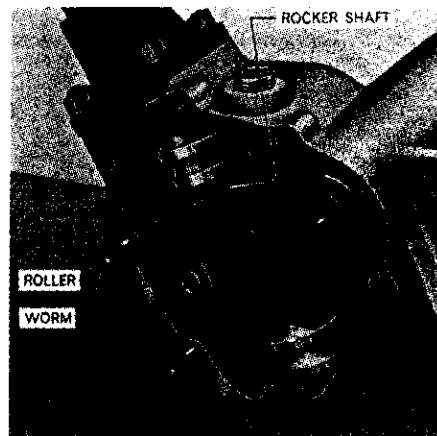
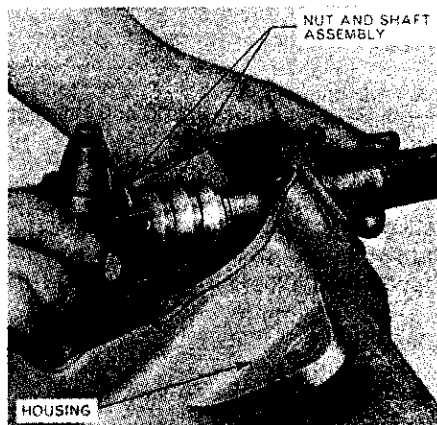
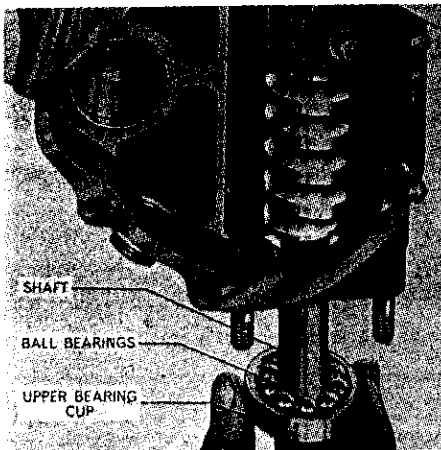

Fig. 22—View of steering gear assembly with side cover removed. Roller moves in slot in side cover.
Fig. 23—Removing the ball nut and steering shaft assembly from gear housing.
Fig. 24—Installing upper bearing race and ball bearings.
Be sure rocker shaft and ball nut are in mid position and roller is in place as shown in Fig. 22, then install side cover (25—Fig. 21) without shims (23) or gaskets (24). Tighten the retaining nuts and cap screws equally finger tight, then measure gap between side cover and steering housing at several points with feeler gage. Average gap measurement is approximate thickness of shims and gaskets required. Shims are 0.005 thick. Use one gasket on each side of shim pack and, on final assembly, apply a light coat of sealer to gaskets.
Remove nut retaining steering arm (16) to rocker shaft (22) and, using suitable pullers, remove arm from shaft. Unbolt and remove the side cover (25), shims (23) and gaskets (24). Remove roller (7) from ball nut (8) and slide the rocker shaft from housing. Unbolt and remove steering column (4), shims (14) and gaskets (15) from gear housing (26). Remove bushing (3) from upper end of steering column. Pull wormshaft (6) upward, then remove upper bearing race (5) and the 10 loose bearing balls (9). Remove the wormshaft and ball nut assembly from gear housing as shown in Fig. 23, then remove the 10 loose bearing balls from gear housing. Unscrew the ball nut assembly from wormshaft and remove the 14 recirculating balls from the nut. Tube (11—Fig. 21) can be removed from nut (8) if necessary. Remove lower bearing race (12), spacer (13), bushings (19 and 21) and oil seal (18) from gear housing (26).
To reassemble, proceed as follows: Install new bushings (19 and 21) using piloted drift or bushing driver, then install new seal (18) with lip to inside of gear housing. Install spacer (13) and lower bearing race (12) in gear housing, then stick the 10 bearing balls in race with grease. Assemble tube (11) to ball nut (8) if removed, then stick the 14 recirculating balls in tube and groove of nut with grease. Thread the ball nut assembly onto wormshaft, then install the shaft and nut assembly in gear housing as in Fig. 23. Carefully insert wormshaft into lower bearing to avoid dislodging any of the bearing balls, then while holding shaft in the bearing, place upper bearing race over shaft and invert the assembly allowing gear housing to rest against end of shaft. Stick the 10 bearing balls in upper race with grease, then push bearing assembly up into housing as shown in Fig. 24. While holding against upper bearing, turn the assembly upright. Install new bushing (3—Fig. 21) in steering column, then refer to paragraph 30 for wormshaft adjustment and column installation. Insert rocker shaft. Install the steering arm (16) and tighten the retaining nut to a torque of 125 Ft.-Lbs. Place roller on end of ball nut (see Fig. 22) and install side cover with proper shims and gaskets from rocker shaft adjustment as outlined in paragraph 31.